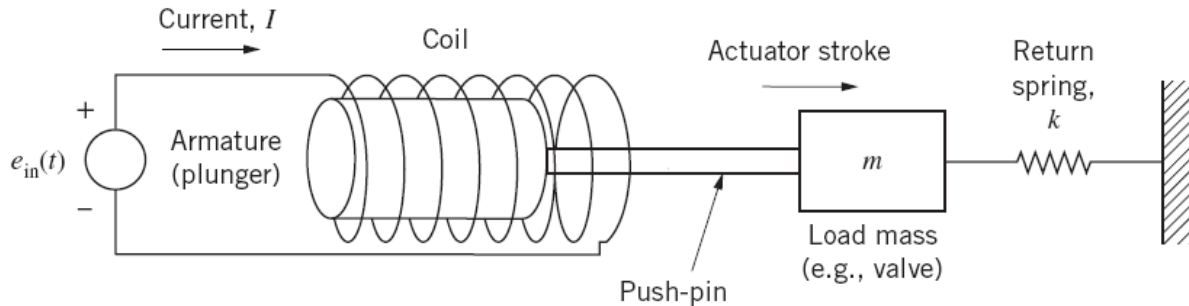

Figure 1. Solenoid Actuator
2. Build a solenoid actuator setup as the example shown in class as shown in Figure 1 below (with 1 solenoid actuator, driver and necessary velocity/voltage sensors). You can either build the solenoid actuator yourself or buy something off the shelf. Measure the key state variables trajectories (such as mass velocity, input voltage) profile with respect to time with real-time sensors (velocity sensors, etc). Then model the dynamic system using